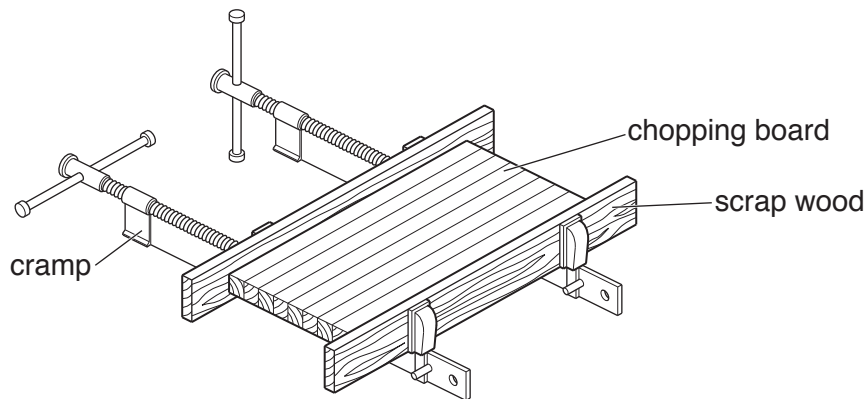

Fig. 3
- 8 Fig. 3 shows hardwood strips being glued together to make a chopping board.